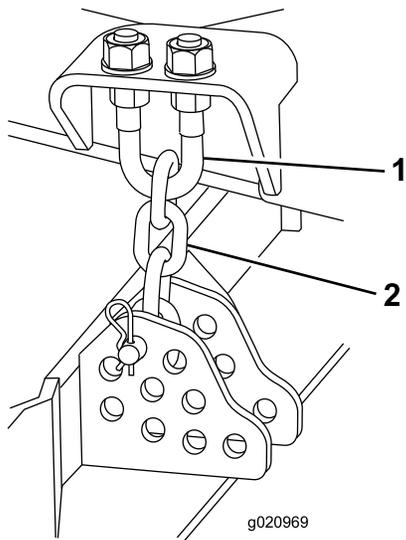

Figure 101
4. Remove the hairpin cotter and clevis pin securing the height-of-cut chains to the rear of the mower deck (Figure 101).